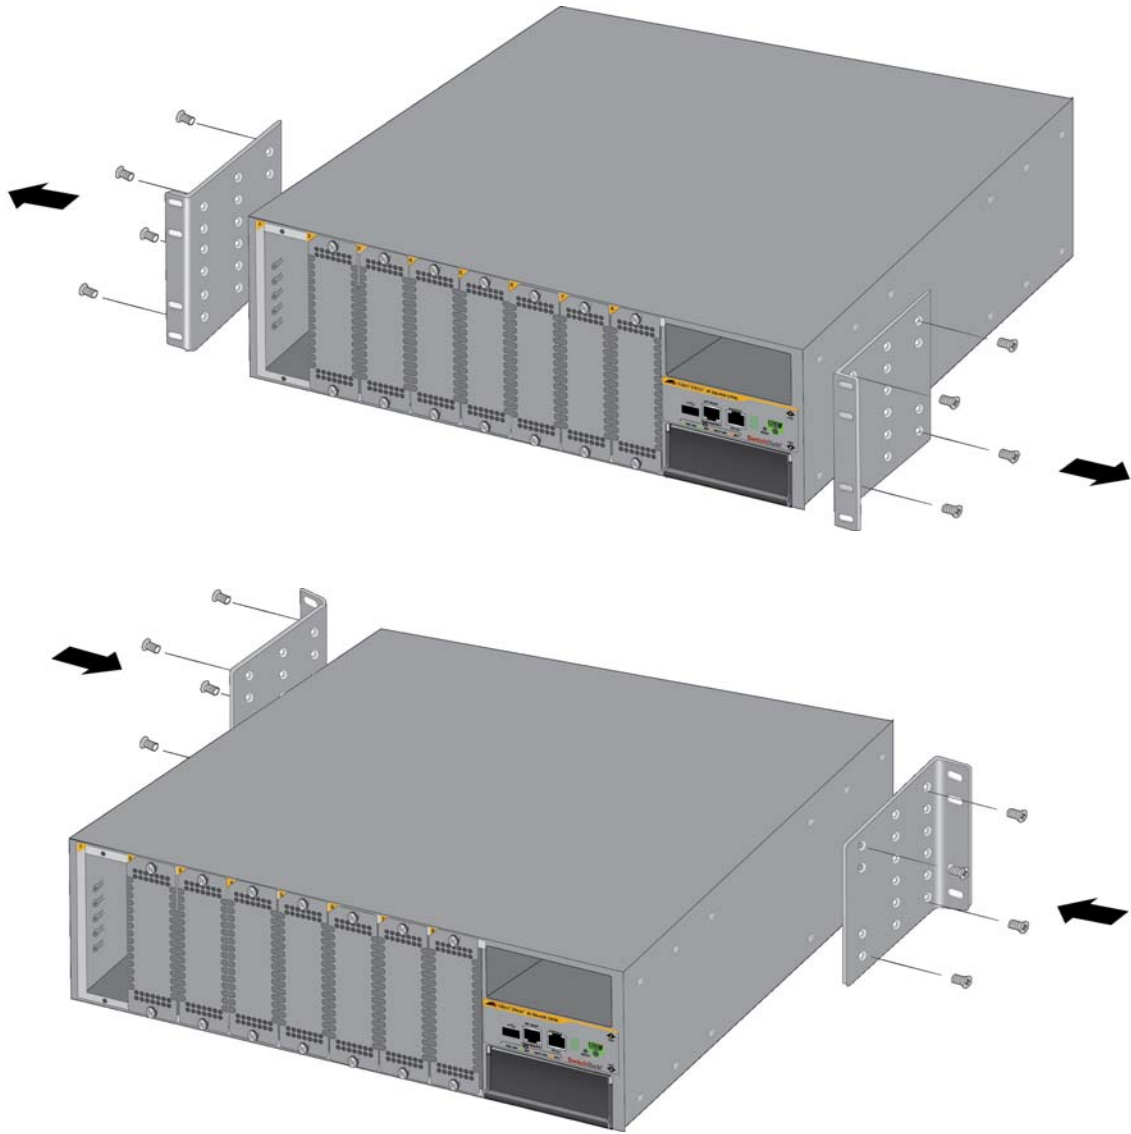

Figure 27. Example of Adjusting the Equipment Rack Brackets
To change the positions of the brackets, use a #2 Phillips-head screwdriver to remove them from their default positions and secure them to the new locations. An example is shown in Figure 27 on page 66.
2. If you want to reposition the brackets from their pre-installed positions, remove them using a #2 Phillips-head screwdriver and secure them in their new position. Refer to Figure 27 on page 66 for an example.